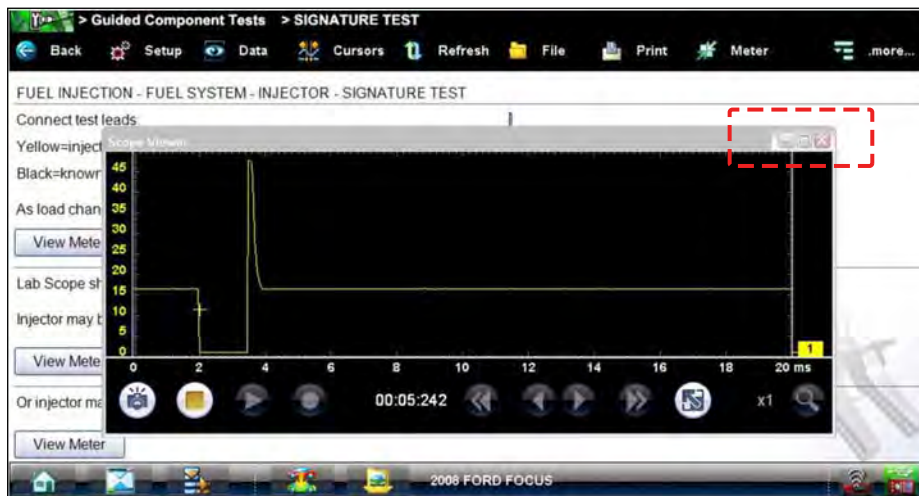

Figure 7-10 Sample meter view in a separate window
2. Select the **Meter** icon a second time and the meter open as a separate window (Figure 7-10). This window can remain open if you switch to the Scan Module and can be accessed from the Windows toolbar at the bottom of the screen. You can also resize and reposition the meter window on the screen.